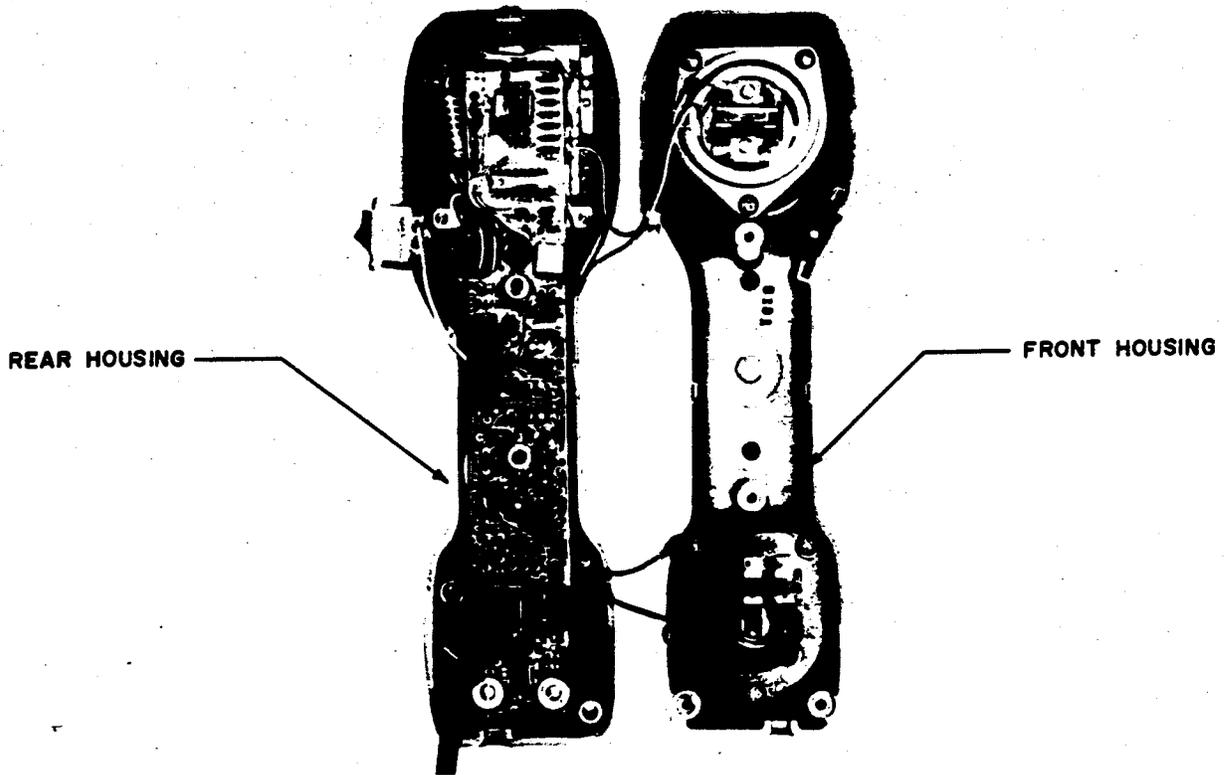

Fig. 10—TS21 Lineman's Test Set Shown Disassembled
- (2) Separate the front and rear housing and place them as shown in Fig. 10.
Note: Arranging the two parts of the case as shown in Fig. 10 reduces the risk of accidentally pulling loose the receiver or transmitter wires.